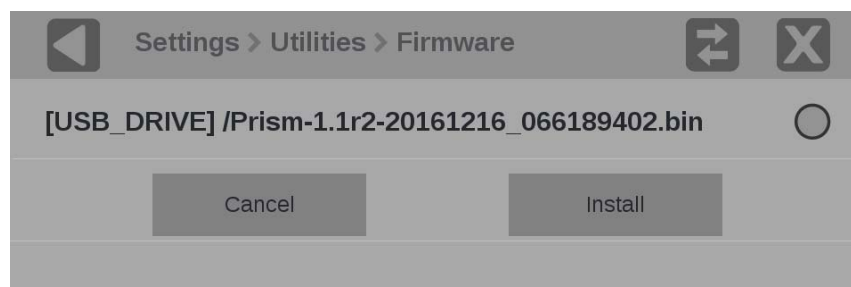

Figure 57: Selecting the firmware upgrade file
6. Touch the desired file in the list to select it, and then touch **Install** to start the upgrade. (See Figure 57.)